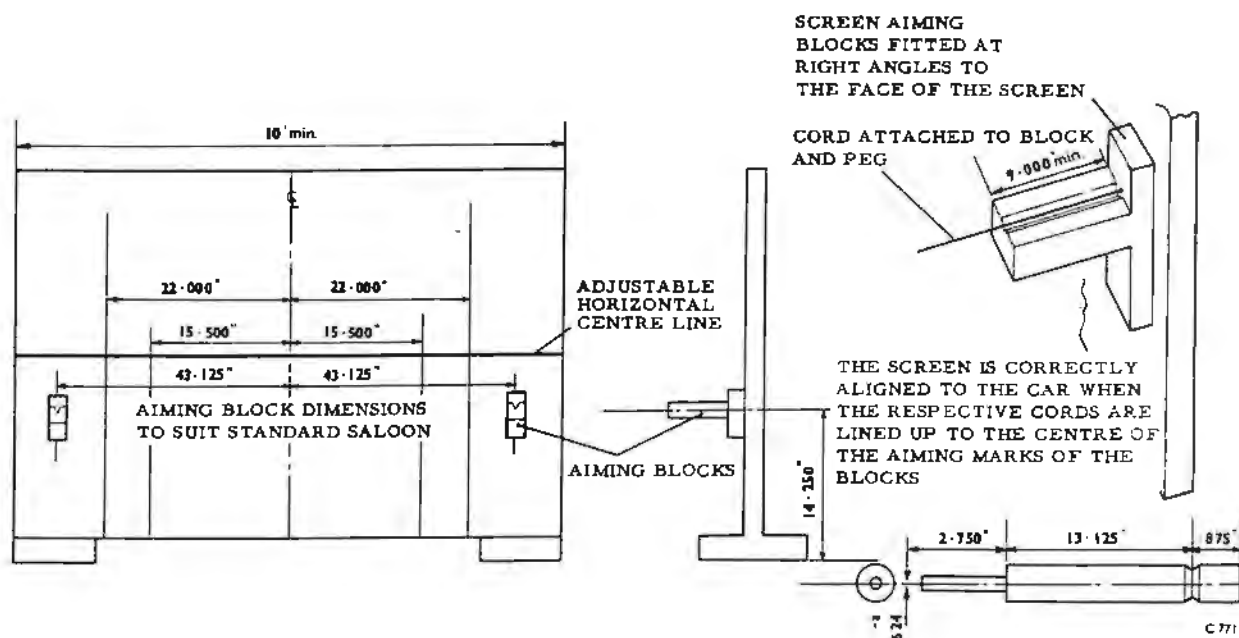

Fig.1 Headlamp aiming screen
- 1 A matt white painted screen marked and made to the dimensions as shown in Figure 1. The screen should be movable and be provided with aiming blocks and cords, also shown in Figure 1
- 2 A cord anchorage peg which fits into the hole in the rear axle shaft. The peg should be made to the dimensions shown in Figure 1.